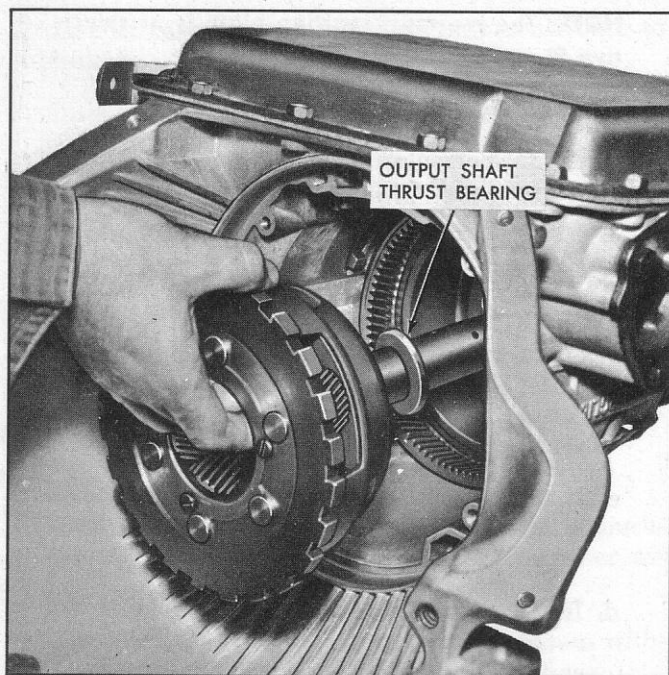

Fig. 39—Installing Gearset
15. Place the output shaft thrust bearing over the output shaft and install the planetary carrier and output shaft into the transmission case (fig. 39).